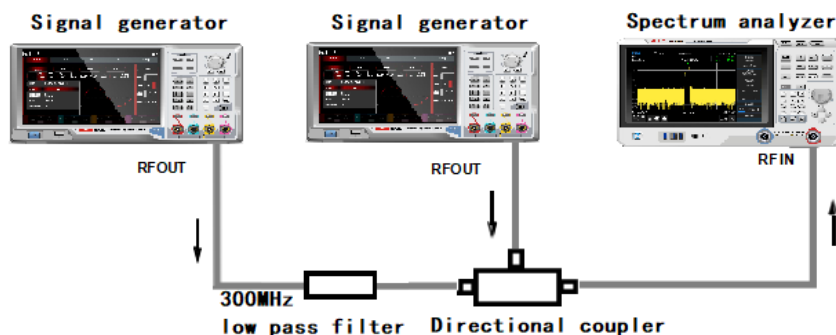

Figure 3-18 Instrument Setting of Third-Order Intercept Signal
1. As shown in Figure 3-18 to connect an instrument. Connect the input port of the spectrum analyzer via low pass filter and directional coupler, the output of the directional coupler is two-tone signal source with low intermodulation distortion.